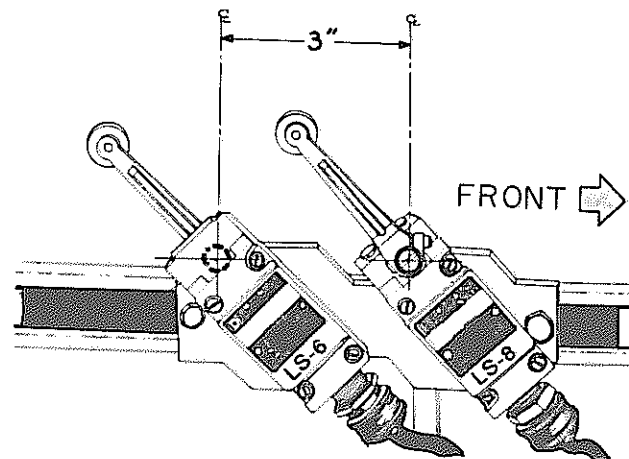

Fig. 45
16. Slide LS-8 (Feed Fork Delay Plunger Switch) so that the center of the switch shaft is 3 inches forward of the center of the switch shaft on LS-6 (Plunger Return Delay Switch), see Fig. 45.
2. Loosen the mounting bolt and slide LS-8 (Feed Fork Delay Plunger Switch) forward or rearward so that the center of the switch shaft is 3 inches forward of the center of the switch shaft on LS-6 (Plunger Return Stop Switch), see **Fig. 45**.